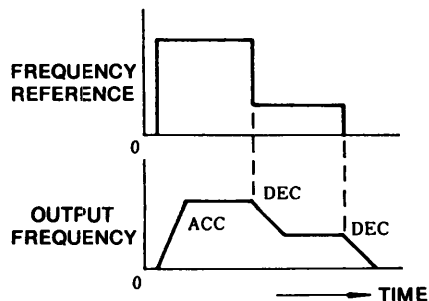

Fig. 4 Accel/Decel Time Setting
- (4) Acceleration and deceleration time setting circuit: Smoothly changes the output frequency upon a rapid change of the frequency reference signal. Acceleration and deceleration times can be independently set by the acceleration (ACC) and deceleration (DEC) time setting potentiometers (Fig. 4).
- (5) Stall prevention circuit